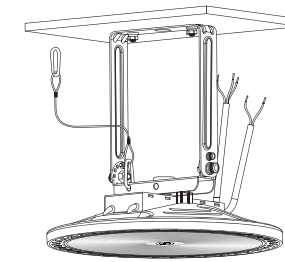

FIG 2.6
5. One end of the safety rope is buckled into the corresponding hole of the ceiling bracket, and the other end is installed on the corresponding ceiling structure (FIG 2.6);